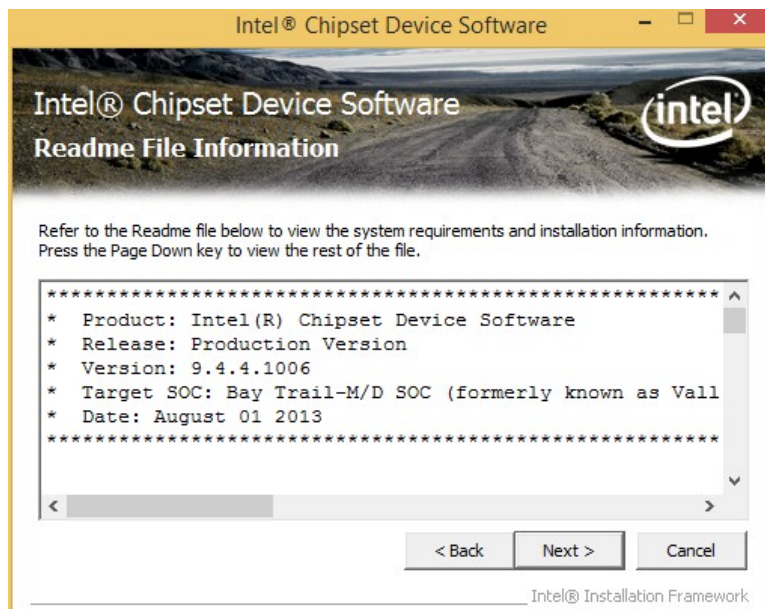

Figure 6-5: Chipset Driver Read Me File
Step 7: The **Read Me** file in **Figure 6-5** appears.